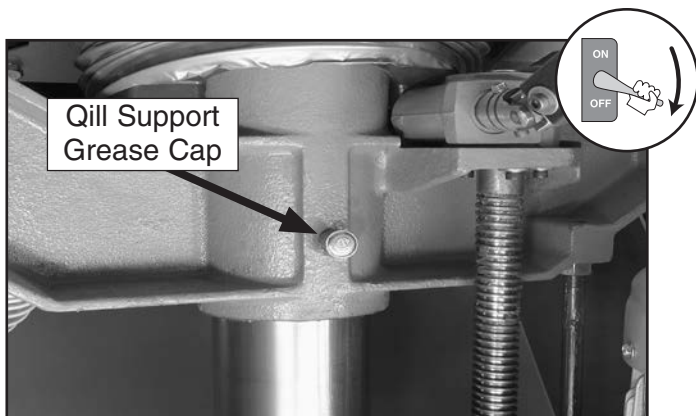

Figure 49. Quill support grease cap.
3. Open the shaper front door and locate the quill support grease cap (see **Figure 49**).